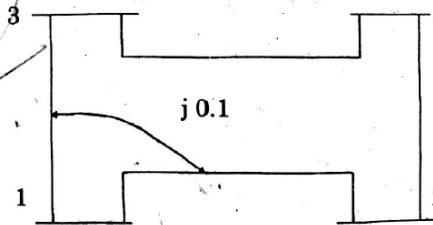

Fig. 2
- (b) Form Y_{bus} of the test system shown in fig.2 using singular transformation method. The impedance data is given in Table 1. Take (1) as reference node.